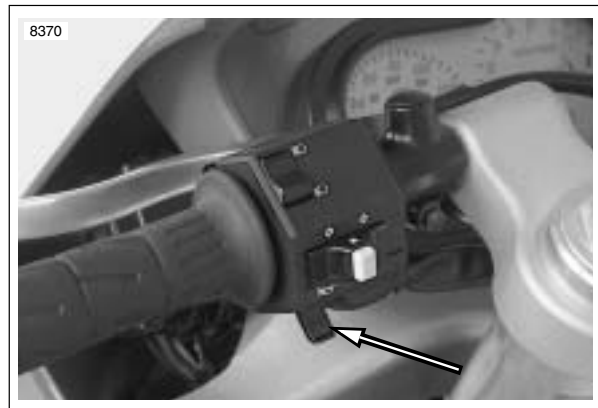

Figure 7-71. Horn Switch
3. See Figure 7-71. Depress horn switch and observe voltmeter reading.